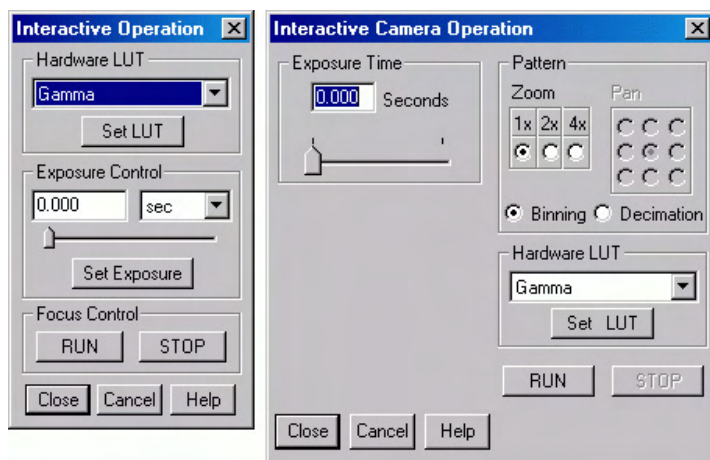

Figure 56. PentaMAX Interactive Operation dialog box
2. Select **Video Focus** from the Acquisition Menu. The Interactive Operation dialog box that will be displayed depends on the PentaMAX version. Version 5 and higher will display the righthand dialog box shown in Figure 56. Earlier versions, display the lefthand dialog box.